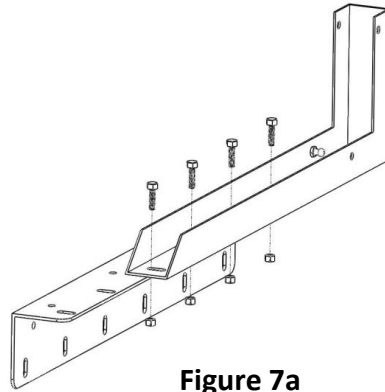

Figure 7a
a. Line up the slotted holes on the Channel Bracket (cvBB) to the Side Mount Bracket (cvAA) and bolt them together using at least 4 Medium Hex Bolts (cvD) and 4 Lock Nuts (cvF). The Channel Bracket (cvBB) should hang over the edge of the Side Mount Bracket (cvAA). Do not tighten the bolts all the way. See Fig 7a.